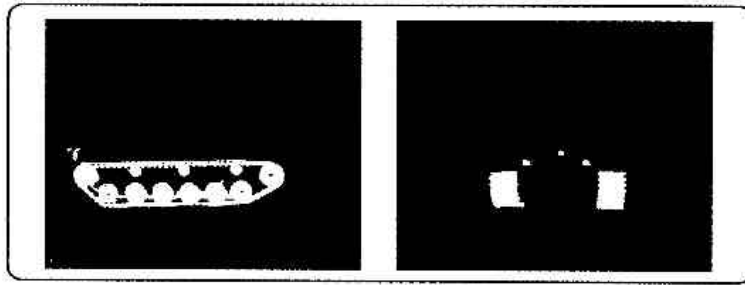

Figure A-1. M60A1 main battle tank.
a. **M60A1 Main Battle Tank** (Figure A-1).